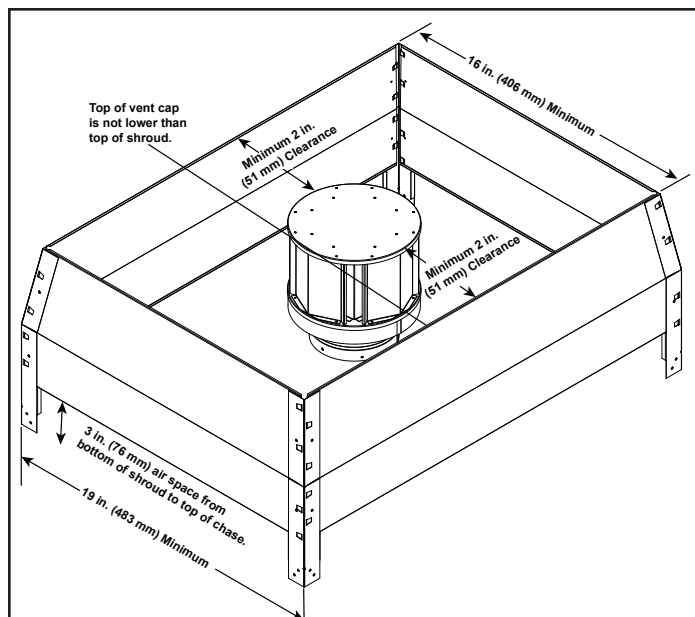

Figure 27 Minimum Dimensions of Shroud & Chase
- Minimum dimensions for the shroud are shown in Figure 27.